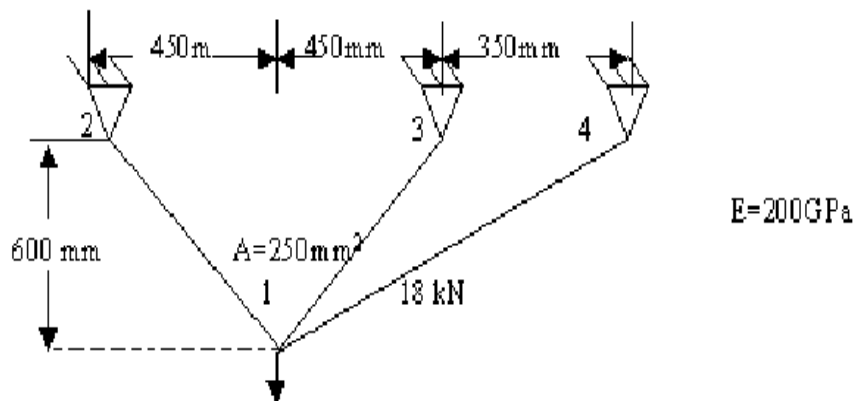

Figure 2
2. Determine the displacement at node 1 of the truss structure as shown in the figure 2: [16]